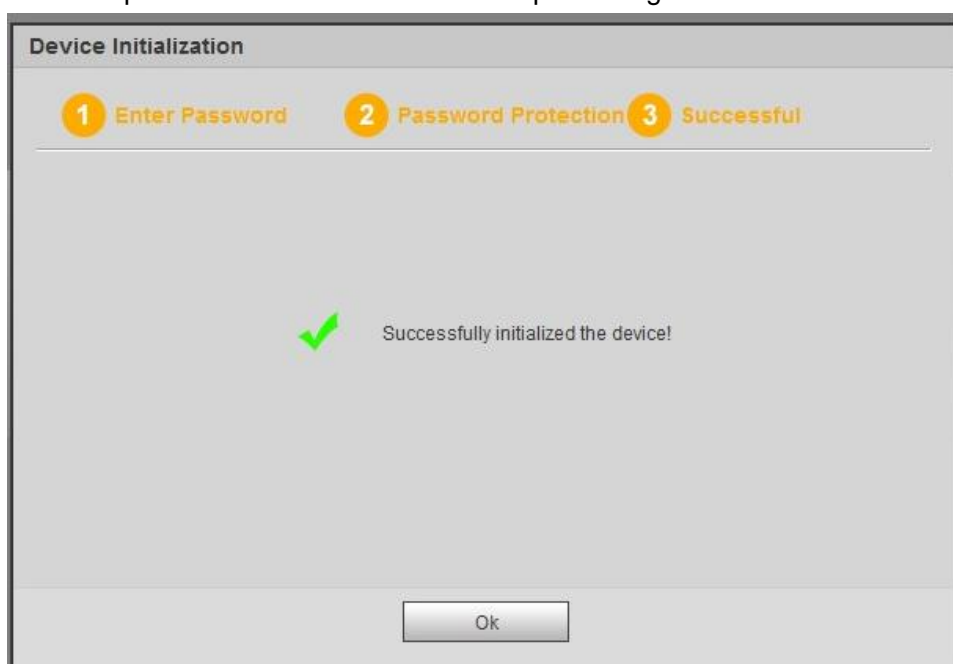

Figure 5-3
Step 6 Click OK to complete the device initialization setup. See Figure 5-3.